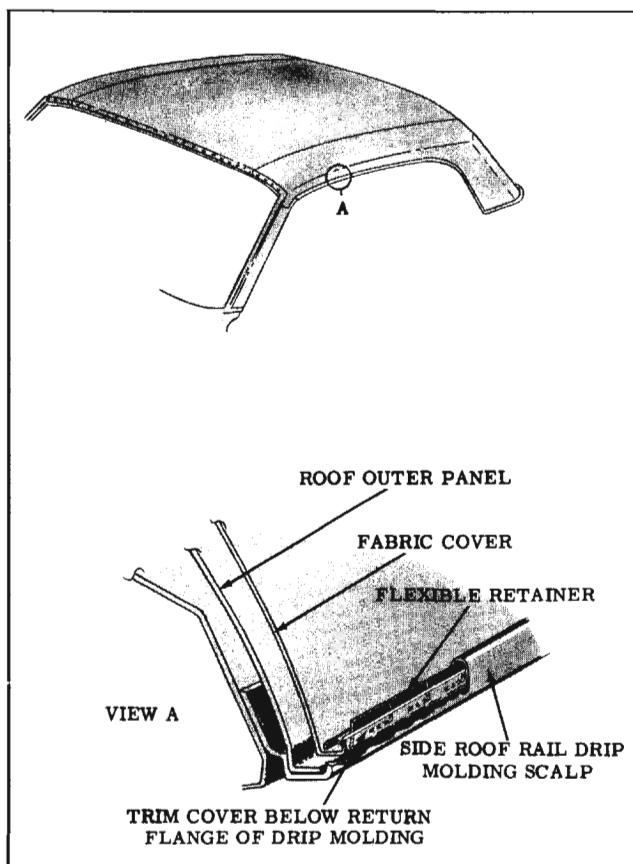

Fig. 16-170 Fabric Roof Cover
4. Remove flexible retainers securing fabric cover inside right and left drip moldings by inserting tip of screwdriver under forward end of retainers. (View "A", Fig. 16-170) Working from front to rear of body, disengage fingers of retainers from side roof rail drip molding flanges. Continue above operation until retainers can be removed from body.
17. Install screws (or drive nails) at belt line of rear quarter area. (Fig. 16-170)
19. Using fabric cover trimming tool (J-21092), or suitable small knife, trim fabric cover just under lip of roof drip molding. (View "A", Fig. 16-170)
21. Install flexible retainer starting at radius area above rear quarter window. Working toward rear of body, if necessary, carefully drive retainer downward with a blunt-edged tool. Working toward front of body, install remaining portion of retainer. Retainer fingers should be seated in flange of drip molding. (View "A", Fig. 16-170)